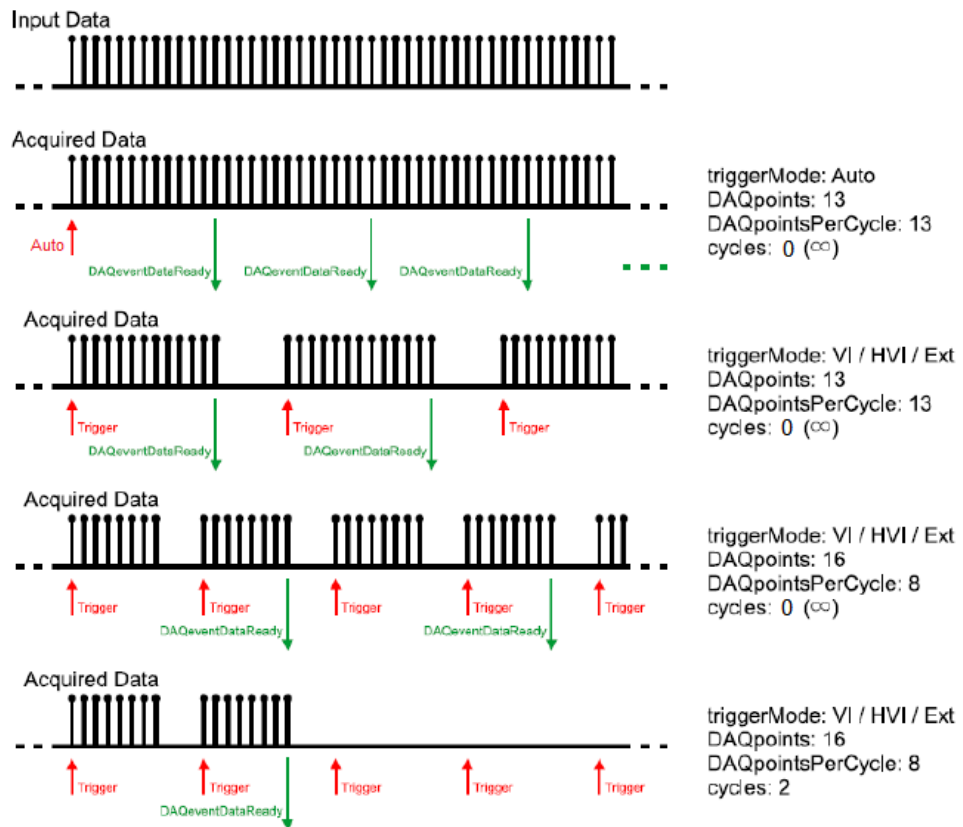

Figure 6: Examples of the DAQ operation (not all trigger methods are available in all modules)
1. Configuration: A call to the function DAQconfig \(page 48\) allows the user to configure, among others, the trigger method, the number of DAQ cycles to perform (number of triggers), the number of acquired words per cycle (DAQ-pointsPerCycle), and the number of words that must be acquired before interrupting the PC (DAQpoints). Figure 6 on the following page illustrates the flexibility of the DAQ block operation.
- PC load: The DAQ buffer must be chosen to allow the PC enough time to process each DAQ buffer (DAQdata) and to handle interrupts and process-context switching tasks. For example, if a computer requires 500 ms to process DAQdata, the buffer size must be such that it can store more than 500 ms of input words without interrupting the computer. The DAQ block facilitates the task of adjusting the PC processing rate with the introduction of the DAQ cycles (Figure 6).